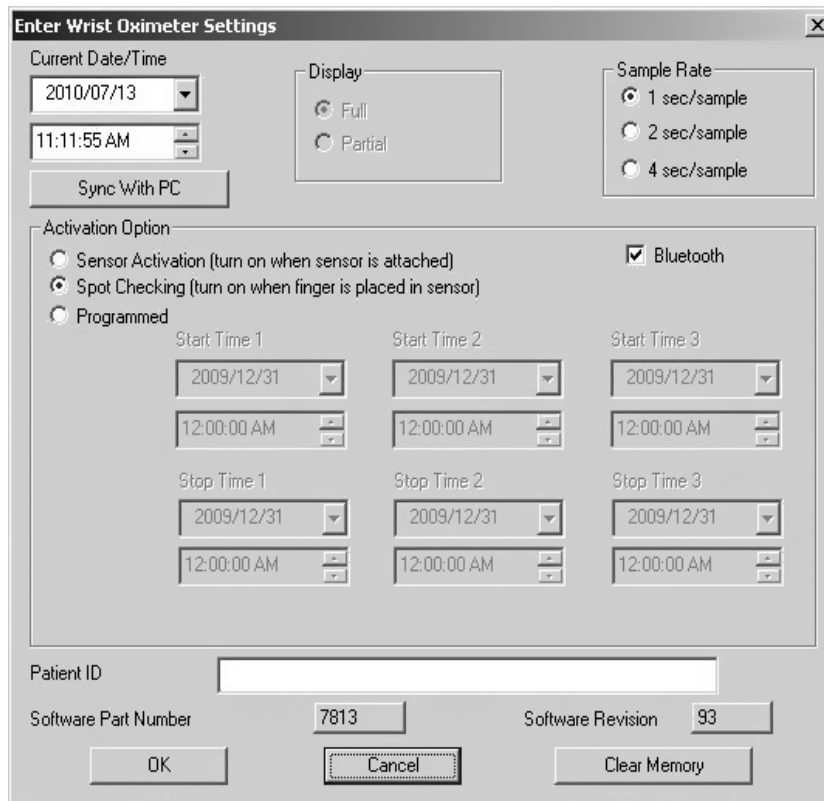

Figure 22: nVISION Settings Window
6. “Enter Wrist Oximeter Settings” window opens (figure 22). Update or change settings as needed.